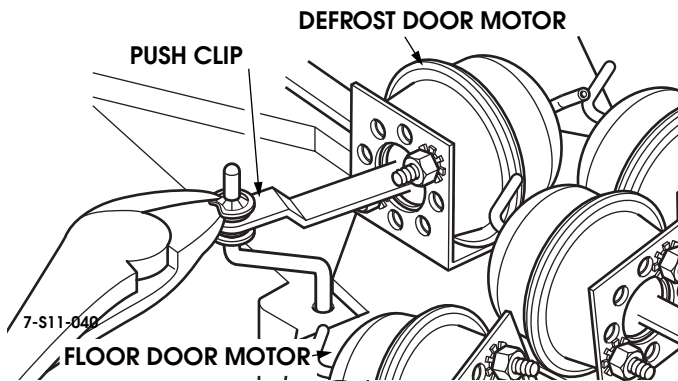

Figure 11-78: Push Clip Removal
- Remove arm retaining push clip, arm and 2 washers from the floor door and defrost door (Figure 11-78).